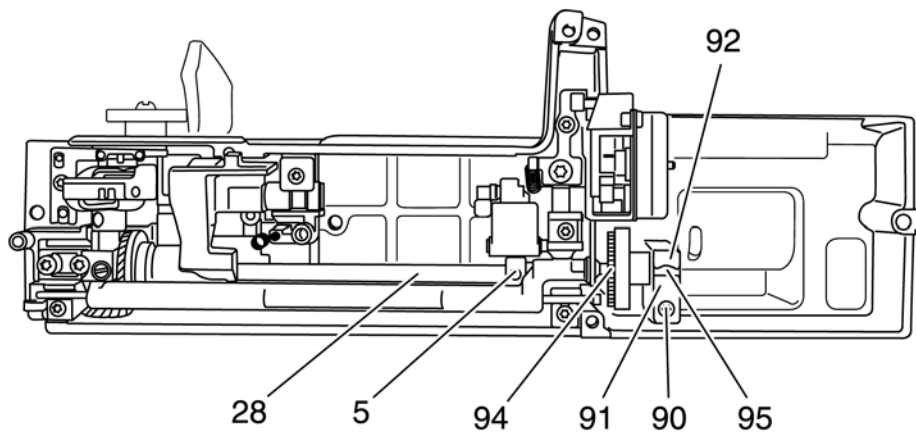

Fig. 76
- Unscrew and remove fastening screw 90 of clamping plate 91 on the lower right calotte bearing (fig. 76).